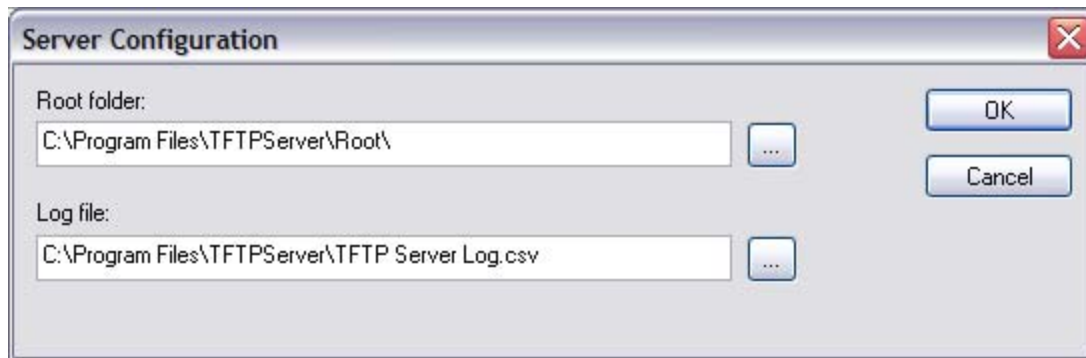

Figure 2: Server Configuration Window
- To configure the server, click the **Configure** button. This will open the configuration window described in Figure 2.